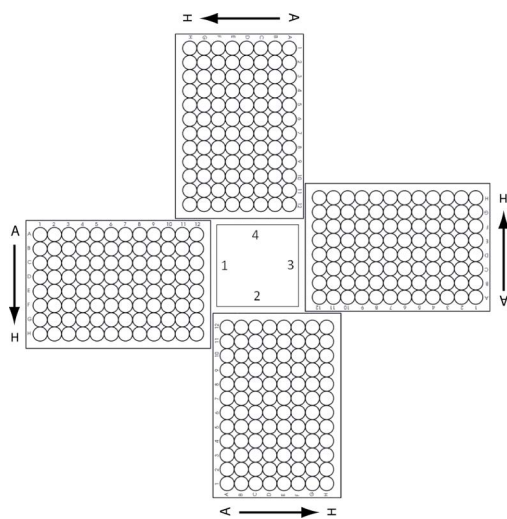

Figure 5 Agilent Labware MiniHub plate orientation.
- 1 Using the plate orientations shown in Figure 5, load the Labware MiniHub according to Table 24.